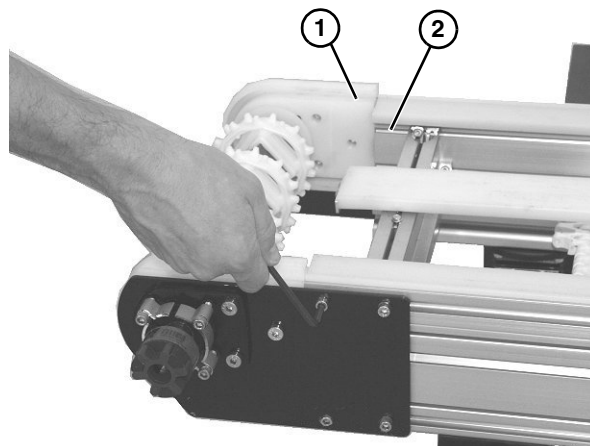

Figure 39
*When reinstalling the drive spindle tail assembly, the terminal assembly (**Figure 39, item 1**) should mate flush with the conveyor frame (**Figure 39, item 2**).*